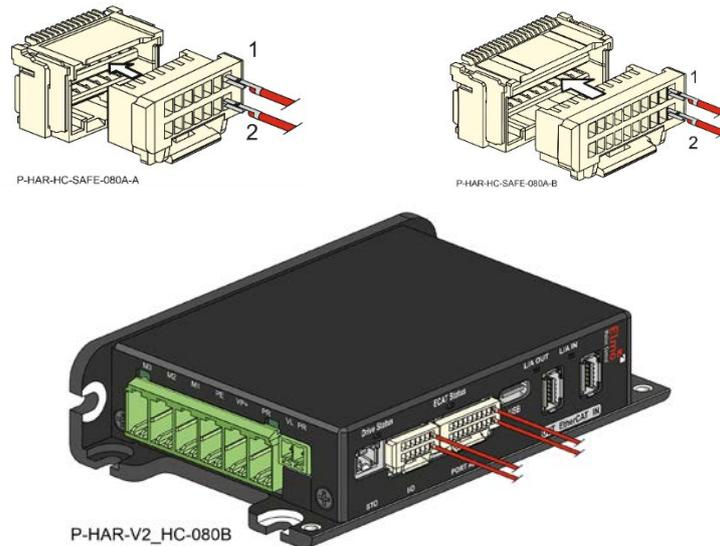

Figure 22: Inserting a wire/pin to the Female Connector
3. Place the connector on a flat surface, in the orientation as shown in Figure 22. Notice that the rectangular slot has a niche at the bottom of the slot.
4. Insert the wire connector to the slot as shown in Figure 22. Make sure that the connector protrusion is inserted to the bottom of the rectangular slot.